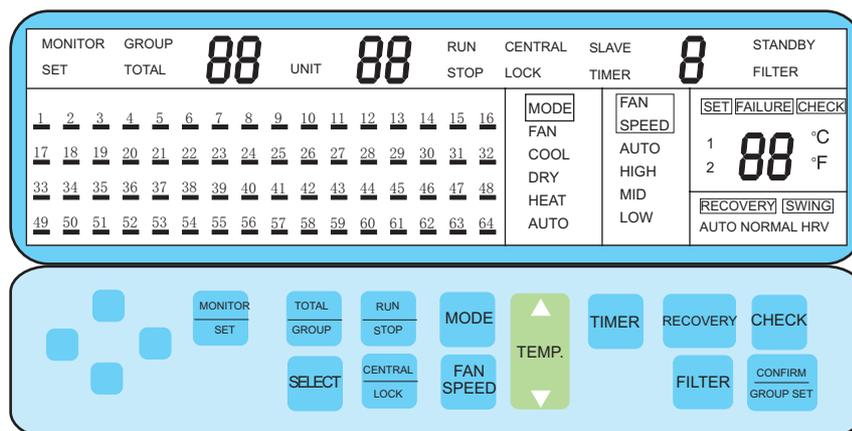

Figure 3: LCD and buttons on central controller
- LCD and buttons on central controller, shown as figure 3: